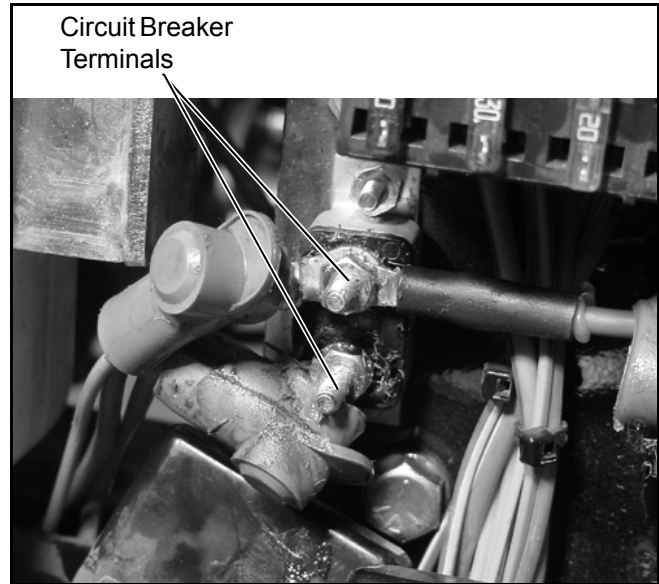

Figure 10K-1. Circuit Breaker Test
4. Connect the red test lead to each of the circuit breaker terminals in turn (Figure 10K-1).